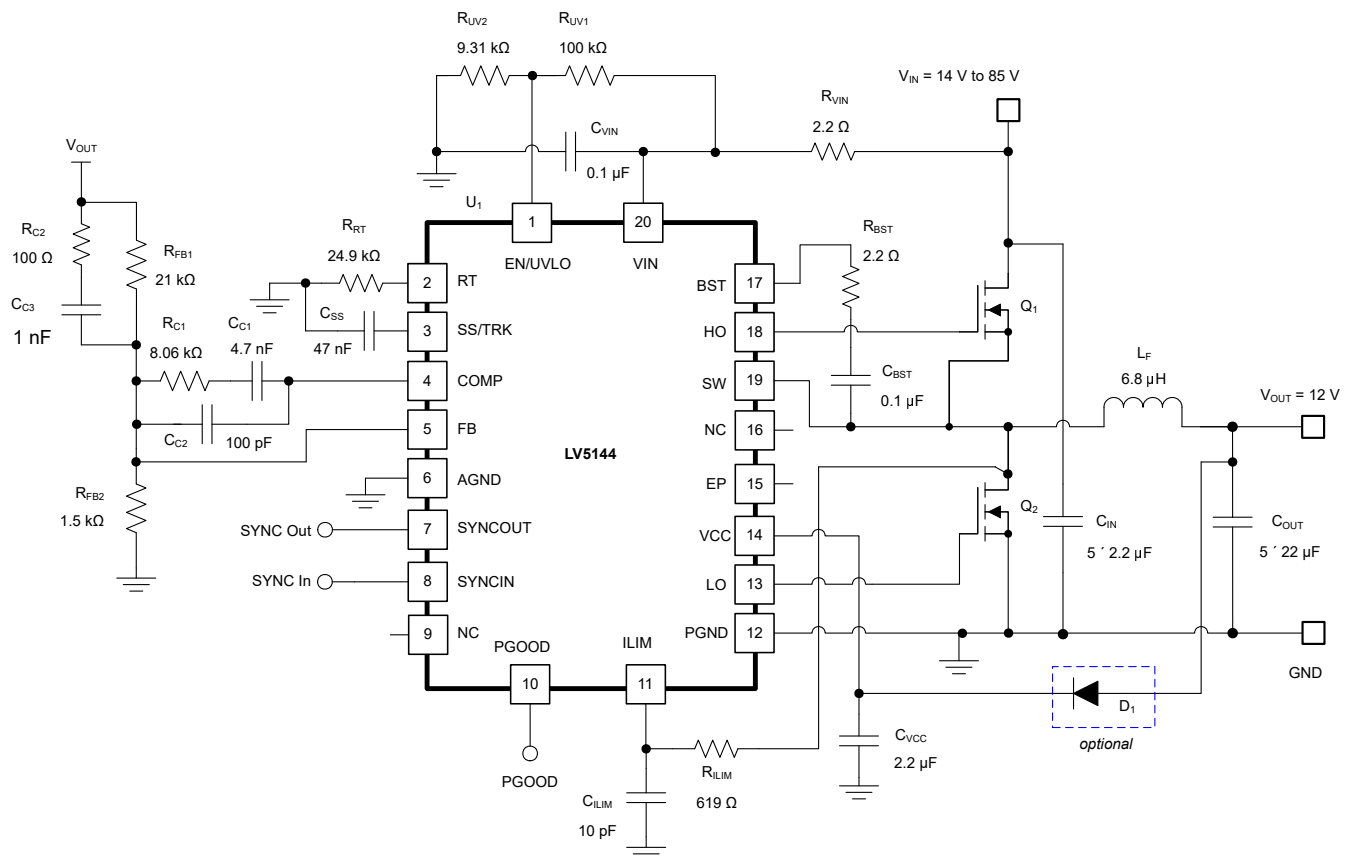

Figure 9-16. Application Circuit 2 With LV5144 48-V to 12-A Synchronous Buck Regulator at 400 kHz
Figure 9-16 shows the schematic diagram of a 400-kHz, 12-V output, 8-A synchronous buck regulator intended for 48-V telecom applications.
As shown in Figure 9-16, a 2.2- Ω resistor in series with C_{BST} is used to slow the turn-on transition of the high-side MOSFET, reducing the spike amplitude and ringing of the SW node voltage and minimizing the possibility of C_{dv}/dt -induced shoot-through of the low-side MOSFET. If needed, place an RC snubber (for example, 2.2 Ω and 100 pF) close to the drain (SW node) and source (PGND) terminals of the low-side MOSFET to further attenuate any SW node voltage overshoot or ringing. Please refer to the application note Reduce Buck Converter EMI and Voltage Stress by Minimizing Inductive Parasitics for more detail.
3. Placing a 2- Ω to 10- Ω resistor in series with the boot capacitor, as shown in Figure 9-16, slows down the high-side MOSFET turn-on transition, serving to reduce the voltage ringing and peak amplitude at the SW node at the expense of increased MOSFET turn-on power loss.